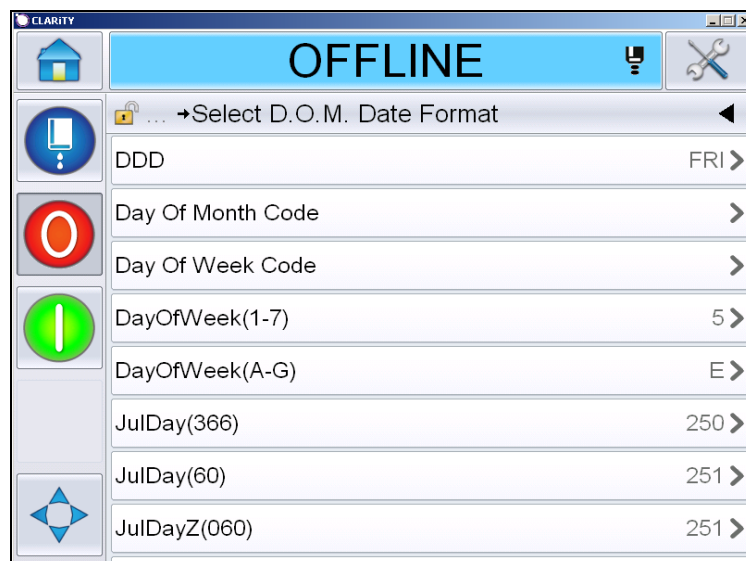

Figure 5-27: Date Format Page
- 6 Select the required date prefix. For example, selecting D.O.M. Displays the *Date Format* page for D.O.M (Figure 5-27). For information on date formats refer Table 5-13 on page 5-40.